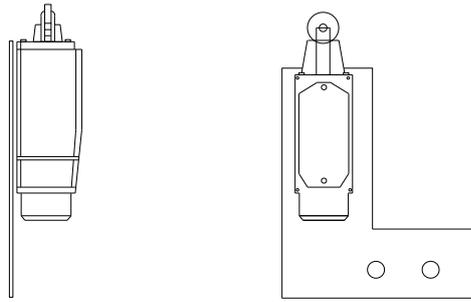

Figure 16 Installation of Limited Switch
**5.4.4** Installation of limit switch: Anchor the limit switch as following picture (See Figure 16)